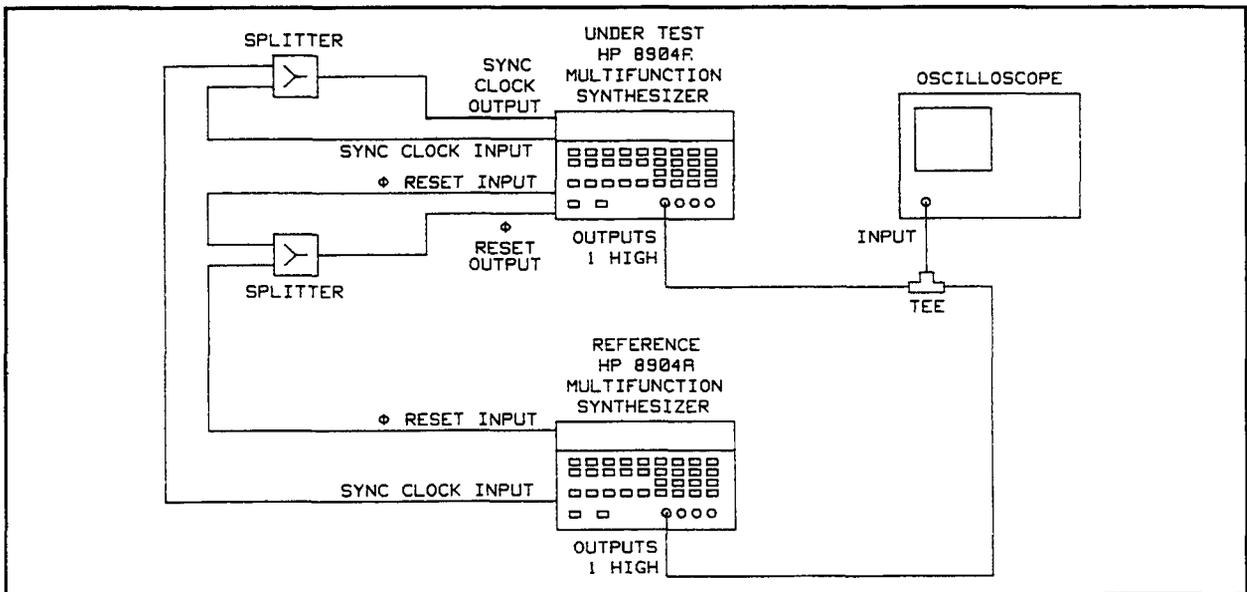

Figure 4-6. Unit-to-Unit Phase Accuracy Performance Test Setup
1. Connect the two Multifunction Synthesizers and oscilloscope as noted in the following steps. Refer also to Figure 4-6.